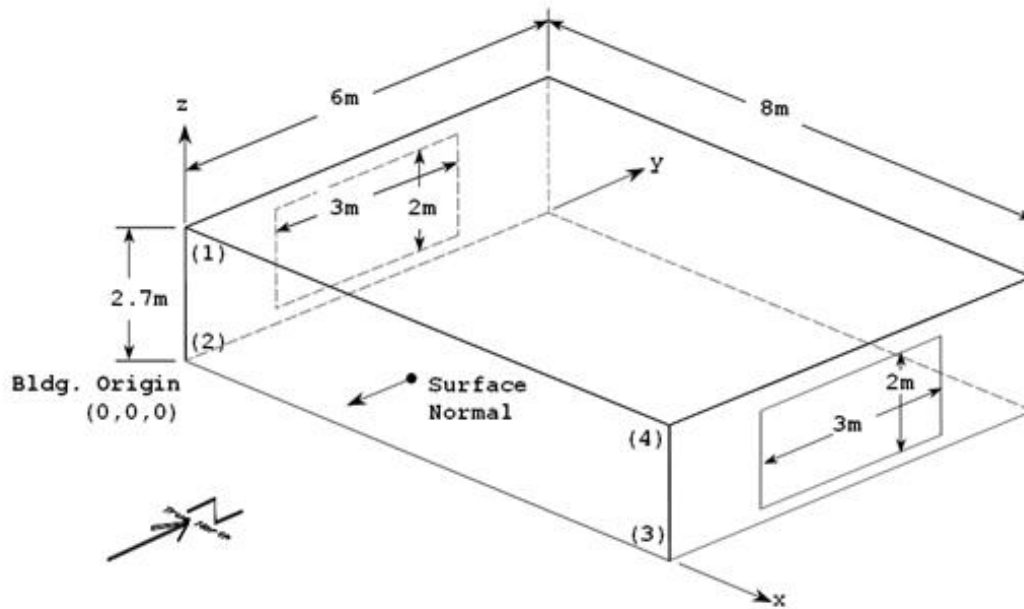

Figure 4.1: Schematic for Exercise 1
5. Add the east window (3m wide by 2m high, centered on wall, *see the drawing in Figure 4.1 to determine coordinates*):
- Vertex coordinates = *as determined from the drawing Figure 4.1*. Coordinates in this input are in World Coordinates (all relative to the global origin of 0,0,0). Coordinates are specified as viewed from the outside of the surface, using the rules specified in the SurfaceGeometry object.